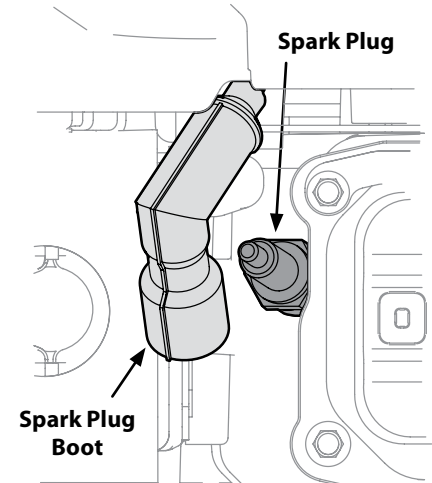

Figure 6-3
1. Remove the spark plug boot and use a spark plug wrench to remove the plug. See Figure 6-3.